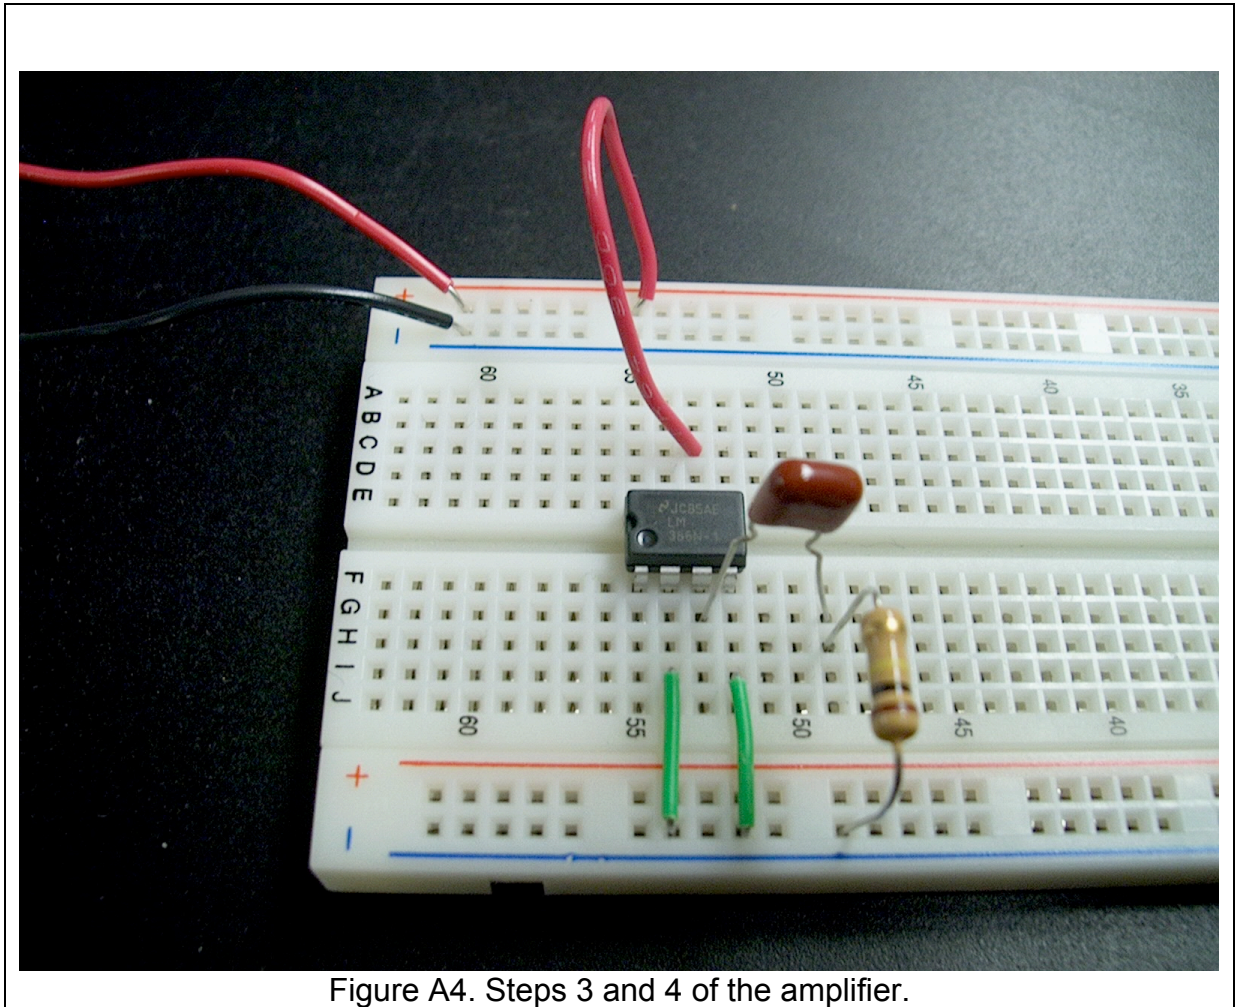

Figure A4. Steps 3 and 4 of the amplifier.
3. Connect the 0.1 μF capacitor from pin 3 to a row that you are not using, Figure A4. This row should have no other components in it (yet) and should NOT be a bus.